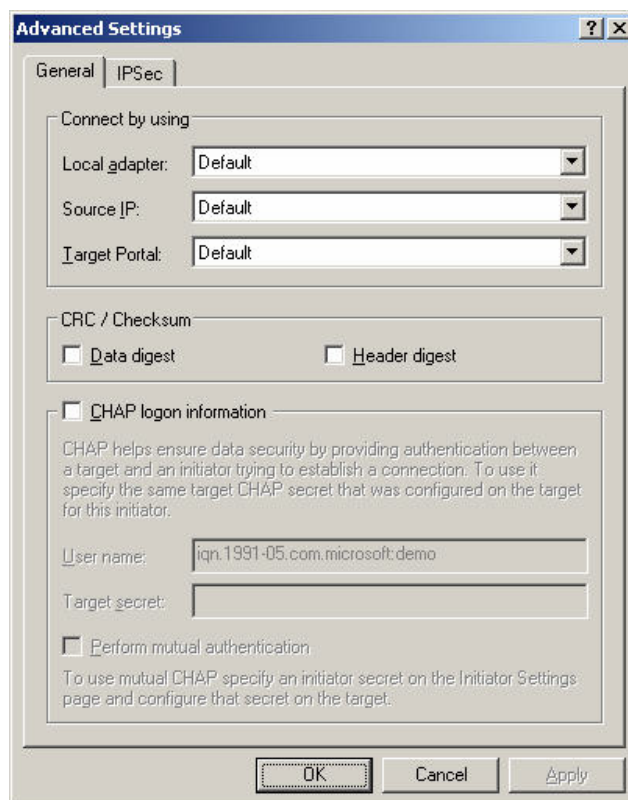

Figure D.6
7. Click “**Advance...**” if CHAP information is needed. Please see Figure D.6.